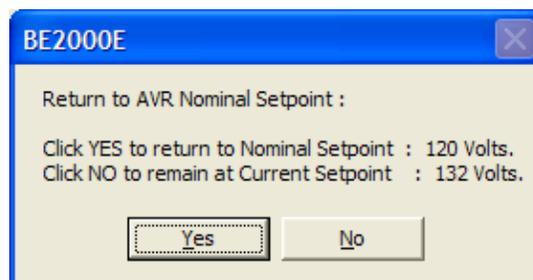

Figure 5-13. Message Box - Return to AVR Nominal Setpoint
The setpoint value currently set in the unit by any of the above methods is displayed in the current setpoint textbox. To return to the nominal setting, the button adjacent to *AVR Setpoint (V) (Nominal)* should be pressed. If the AVR *Analysis* screen is left without returning to nominal setpoint, a message box (Figure 5-13) is shown which allows the user to return to nominal setpoint by pressing *YES* or remain at the current setpoint by pressing *NO*.